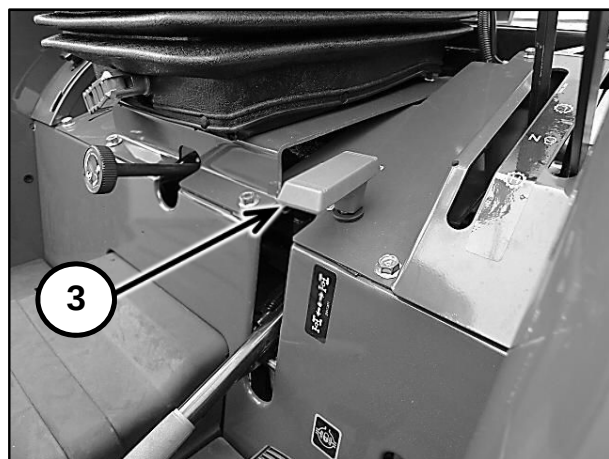

Figure 2-28
The front-wheel drive is controlled by a lever (3) in Figure 2-28, located on the left side under the seat.